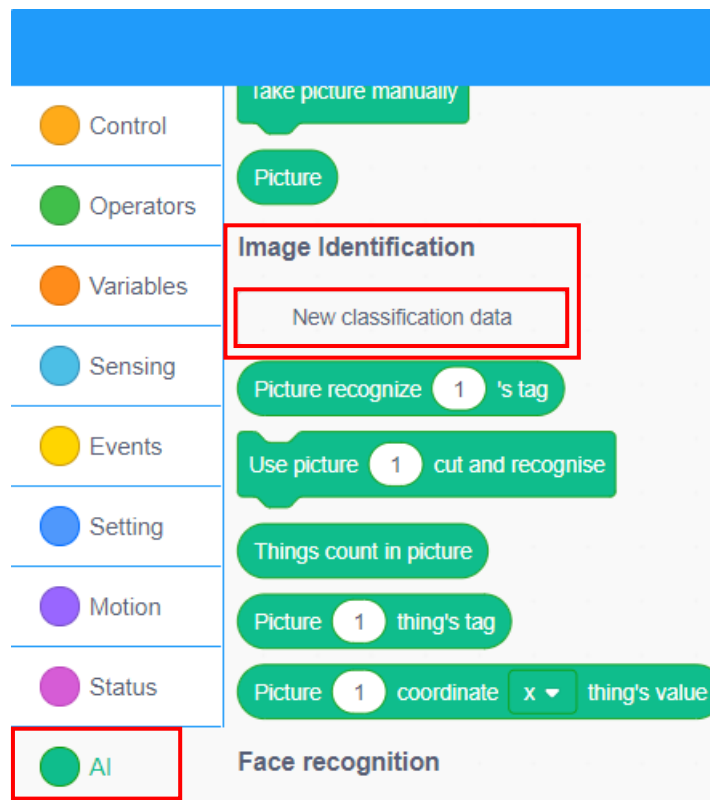

Figure 4.2 New classification data
Step 4: Click the AI tab, select the "New classification data" in the image recognition, and start to train the image classification model, as shown in Figure 4.2.